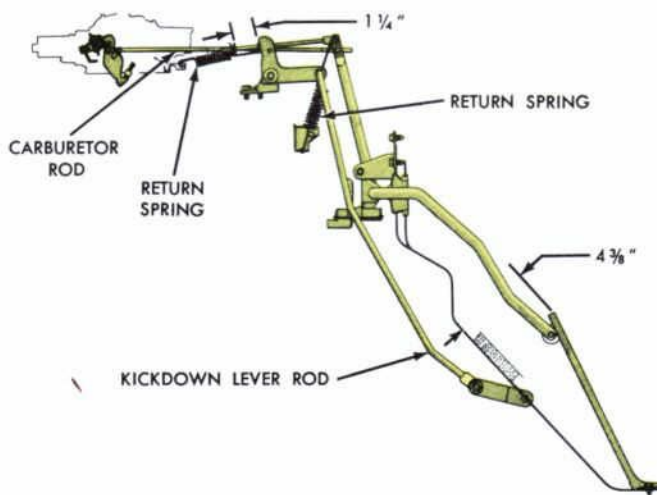

Fig. 87—Thunderbird Throttle Linkage
- 4 Adjust the accelerator pedal height to specification at the carburetor connecting link (Fig. 87).